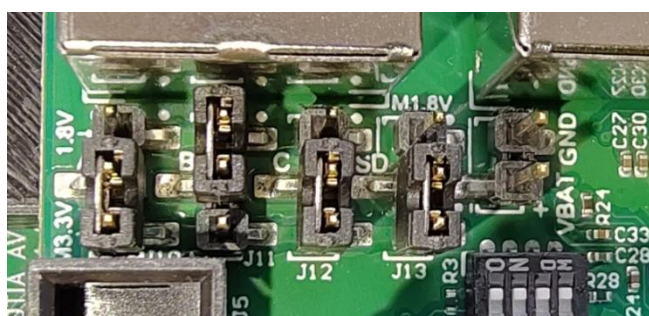

Figure 3: Jumper settings on carrier board TE0706-03, settings is applicable to both 2CG and 3CG modules.
**IMPORTANT:** Configuration of TE0706 power jumpers must be set as follows (see table and Figure 3).